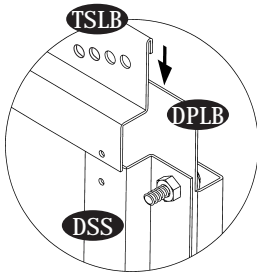

Fig.1
10. Assemble the door panel strip (TSLB) with door panel. Make sure the door panel top edge to be inserted into the (TSLB). See fig.1.